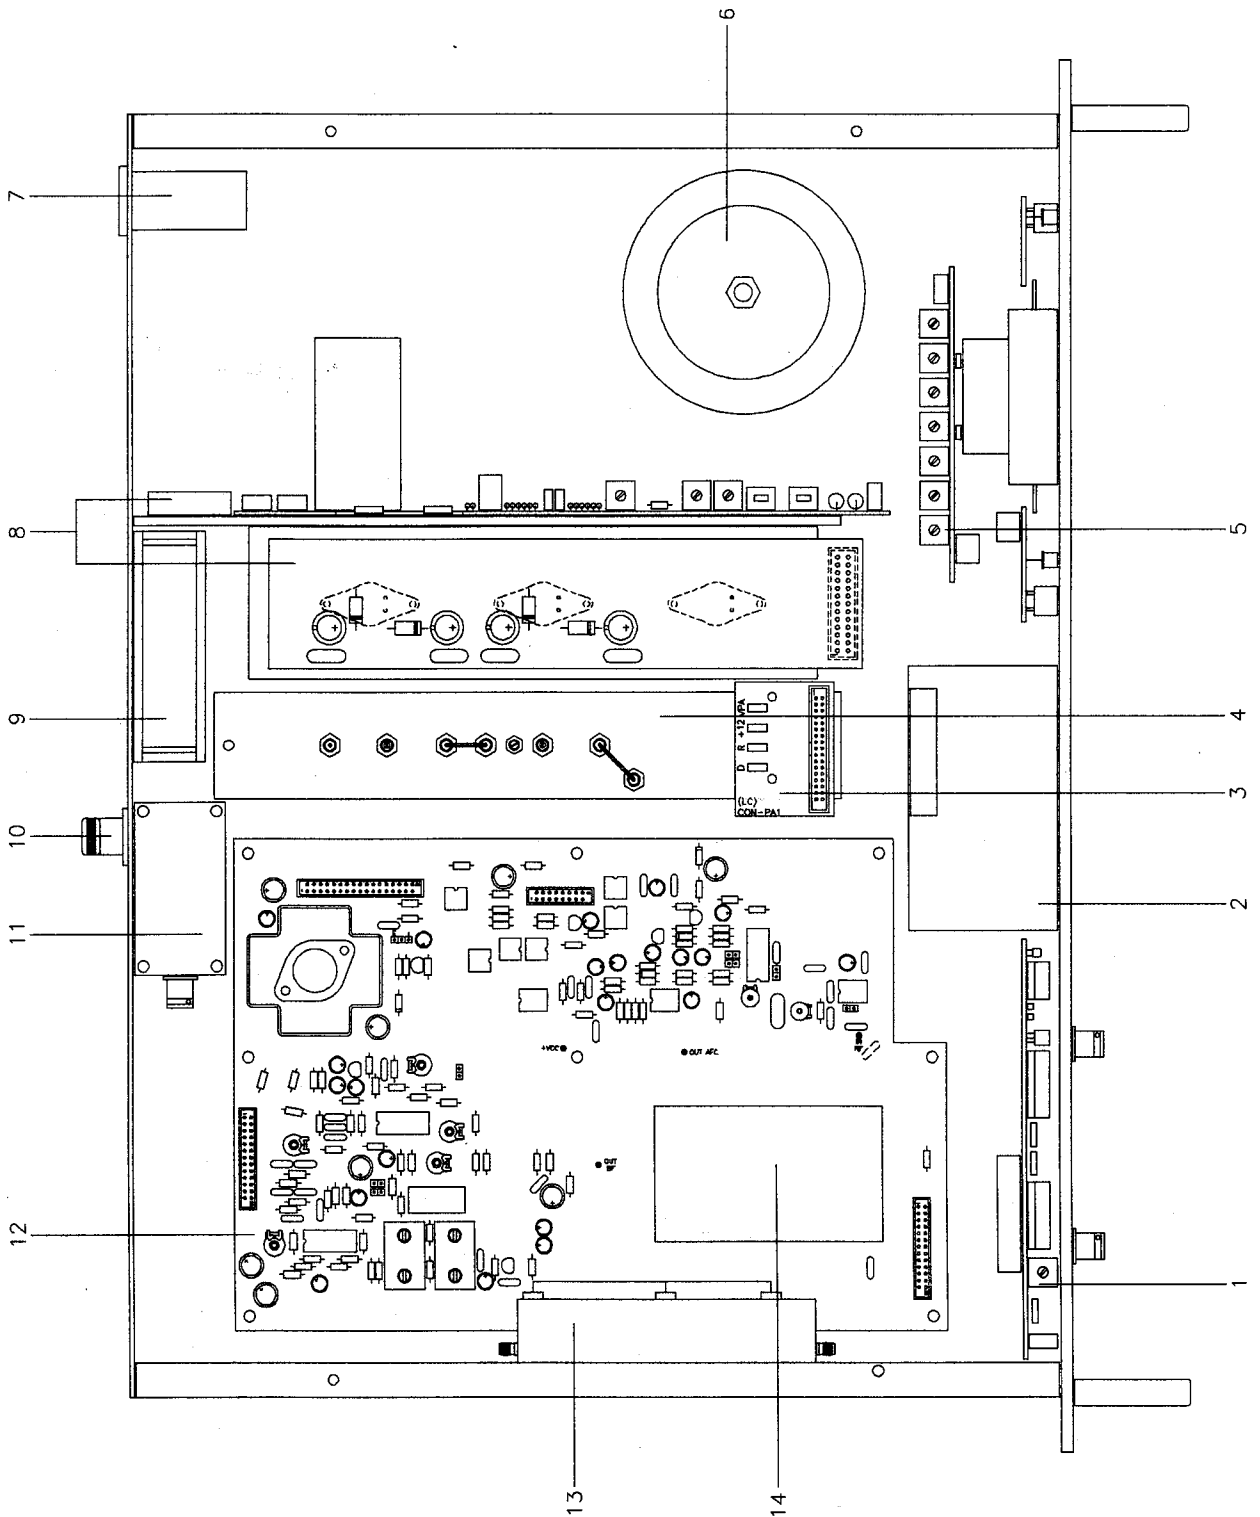

FIG. 3B
**DESCRIZIONE DELLA VISTA DALL'ALTO DEL PTRL-NV/2 2W (Fig.3B)**